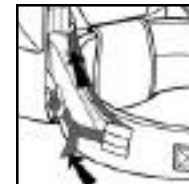

Figure 21
1. Loosen the two ladder-lock buckles located on the webbing straps which connect the waistbelt to the packbag. **See Figure 21.**